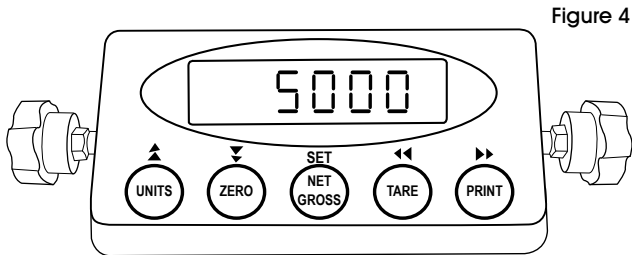

Figure 4
- Press ZERO and verify that screen shows '5,000'. Press SET. Press UNITS. (See Figure 4)